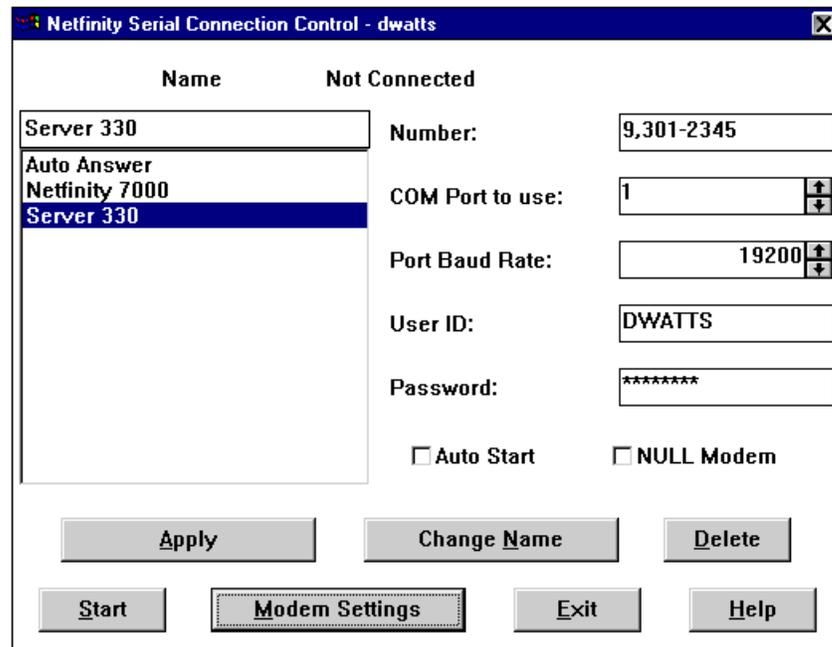

Figure 129. Configuring a Serial Connection
1. If you have not done so already, create a new entry in Serial Control Manager in Netfinity Manager as per Figure 129 on page 171.